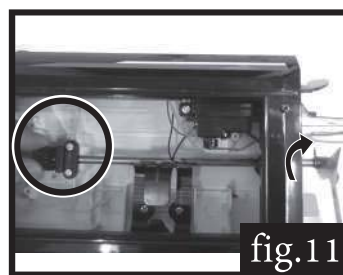

fig.11
11. Hold the rubber part of main shaft, use wrench/spanner to tighten the nut at the end to secure the propeller in position, i.e. the propeller with copper outside should attach to the main shaft, fig. 11.